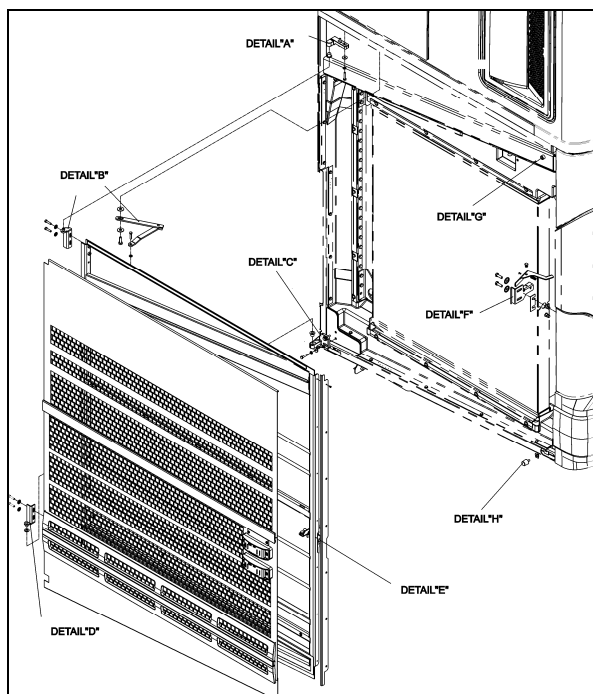

FIGURE 36: RADIATOR DOOR
1. Loosen the bolts, (1, Figure 36) holding the hinge to the vehicle structure to shift the door "IN or OUT" and "UP or DOWN".
2. Loosening the bolts (2, Figure 36) allows the door to be shifted "LEFT or RIGHT" and "UP or DOWN".